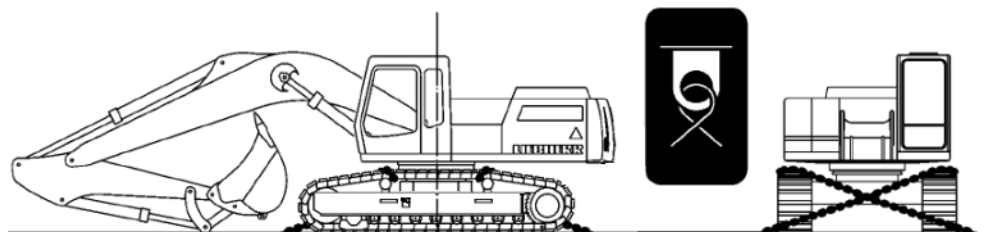

Fig. 3-129 To secure the machine
- ▶ Secure the machine at the points provided for the purpose using tension cables or tension chains (siehe Fig. 3-129). The loading points are identified on plate 45